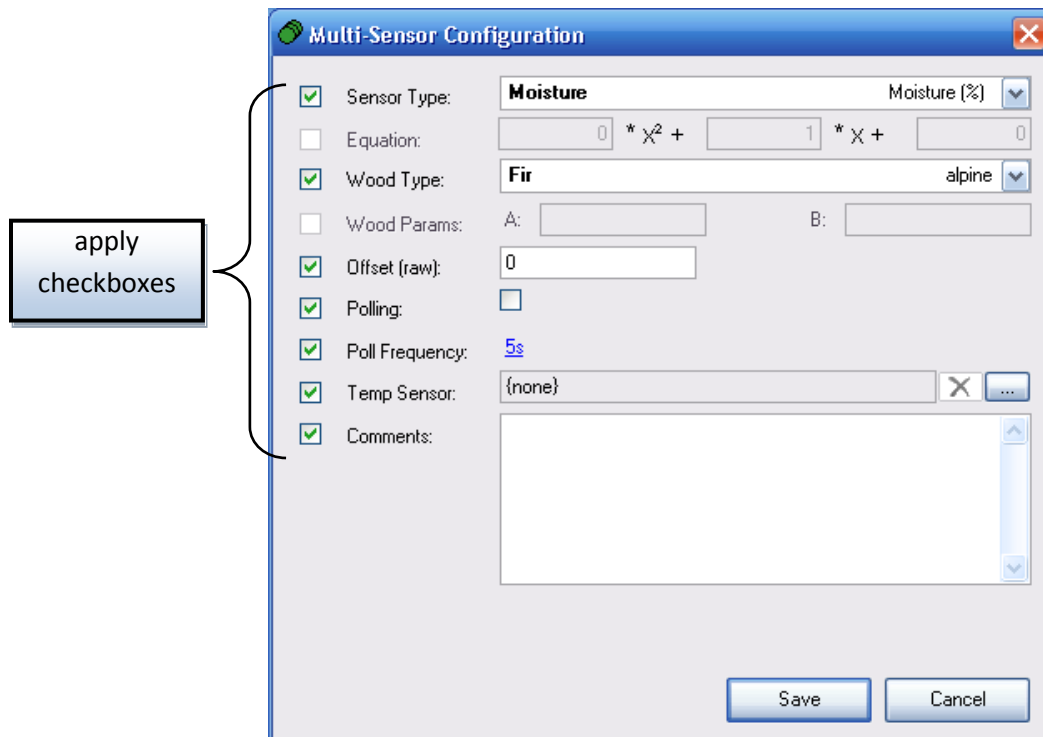

Figure 7-4 - Multi-Sensor Configuration dialog
3. Right-click on one of the sensors in the selection and choose *Configure...* from the context-menu. The *Multi-Sensor Configuration* dialog will be presented (see FIGURE 7-4).